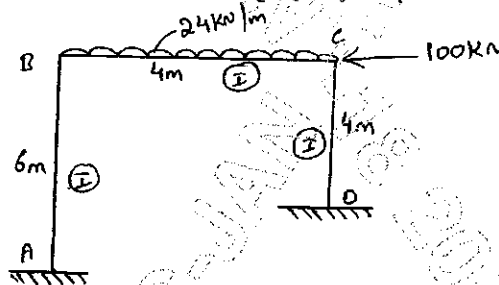

Fig.Q2
- 2 Analyze the portal frame shown in Fig.Q2 by slope deflection method. Draw BMD.